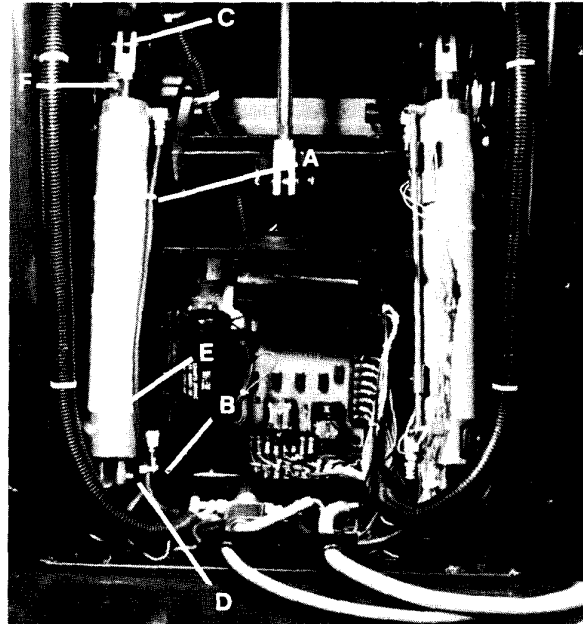

Fig. 27
- 2) Remove the (1) large nylon tie, Item A, Fig. 27 from the cylinder and the (1) nylon tie, Item B, Fig. 27 from the hoses.
- 3) Remove the cotter pin and clevis pin, Item C, Fig. 27 from the rod end of the cylinder.
- 4) While supporting the cylinder, remove the "E"-ring and slide the clevis pin, Item D, Fig. 27 toward the upright, enabling the cylinder clevis to be removed from the pivot block.
- 5) Remove the solenoid, Item E, Fig. 27 from the cylinder by removing the large nut with a  $\frac{3}{4}$ " wrench and pulling solenoid off of valve stem.
- 6) Remove the (2) hose fittings from the defective cylinder using a  $\frac{1}{2}$ " wrench.
- 9) Install solenoid, Item E, Fig. 27 on new cylinder by placing solenoid on valve stem and securing with the large nut.
- 10) Place new cylinder in position and install clevis pin, Item D, Fig. 27 and "E"-ring at the valve end of the cylinder.
- 11) Install the (1) large nylon tie, Item A, Fig. 27 on the cylinder and the (1) nylon tie, Item B, Fig. 27 on the hoses and let the cylinder rest against the motor cover.
- 13) Attach the new cylinder to the back section by aligning the rod clevis and installing the clevis pin, Item C, Fig. 27 and the cotter pin, placing a thrust washer next to and on each side of the clevis.
The cylinders can be synchronized by adjusting the rod clevis on the cylinder whose rod extends farther. To adjust the clevis, loosen the jam nut and turn the cylinder rod into the clevis by using a 1/2" open end wrench on the wrenching flats, Item F, Fig. 27. After adjusting the clevis, lock the clevis in place with the jam nut.